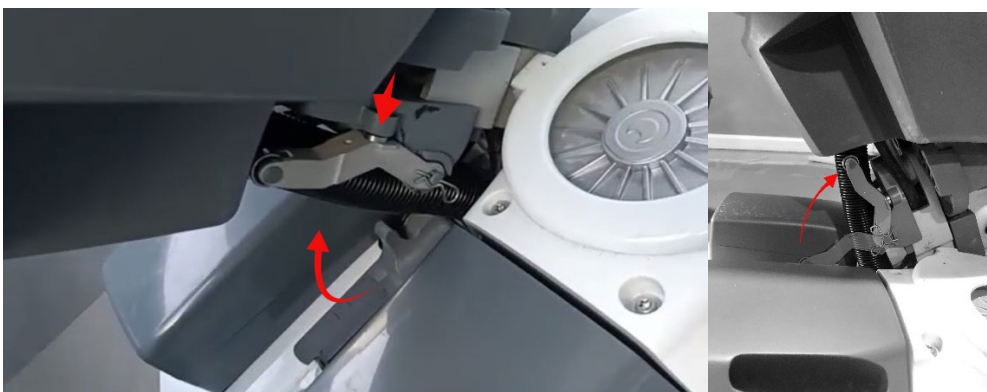

Figure 20A: bringing back in position before parking the unit.
- * put the arm always back at storage position before parking the unit. (figure 20A).